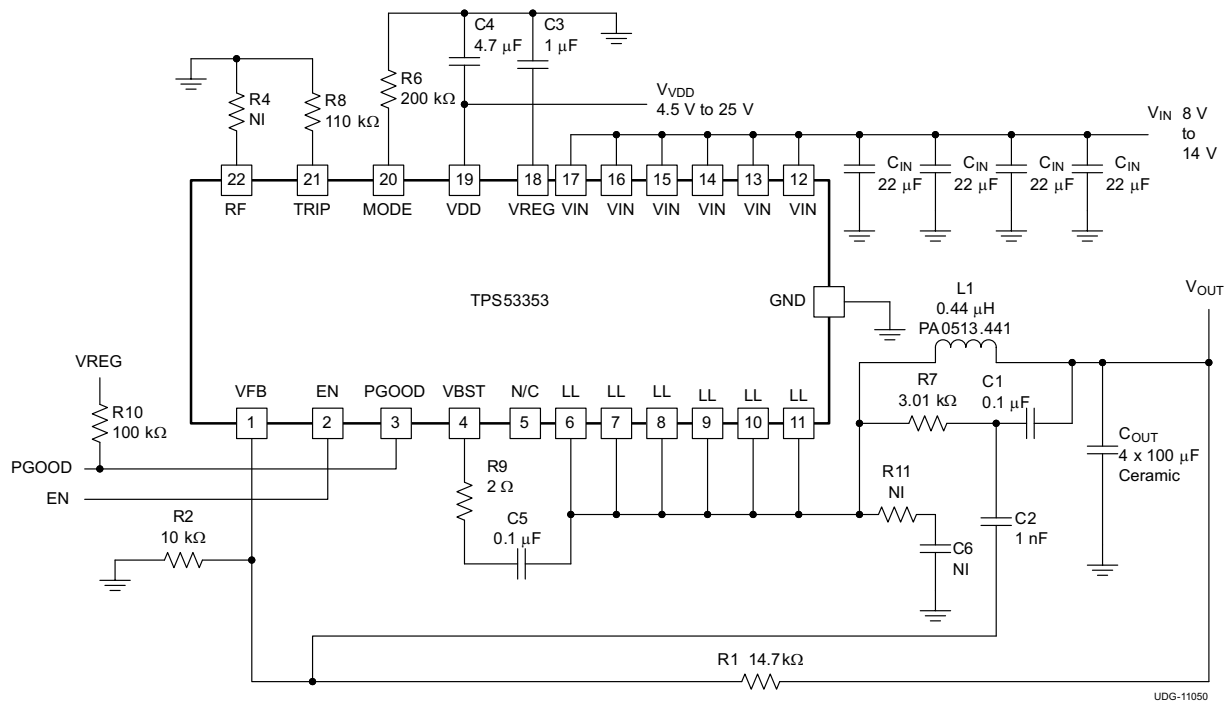

图 8-4. Typical Application Circuit Diagram With Ceramic Output Capacitors
When a ceramic output capacitor is used, the stability criteria in 方程式 6 cannot be satisfied. The ripple injection approach as shown in 图 8-4 is implemented to increase the ripple on the VFB pin and make the system stable. In addition to the selections made using Steps 1 through Step 5 in 节 8.2.2.2.1, the ripple injection components must be selected. The C2 value can be fixed at 1 nF. The value of C1 can be selected from 10 nF to 200 nF.
- Connect the ripple injection V_{OUT} signal (V_{OUT} side of the C1 capacitor in 图 8-4) from the terminal of ceramic output capacitor. The AC coupling capacitor (C2 in 图 8-4) should be placed near the device, and R7 and C1 can be placed near the power stage.